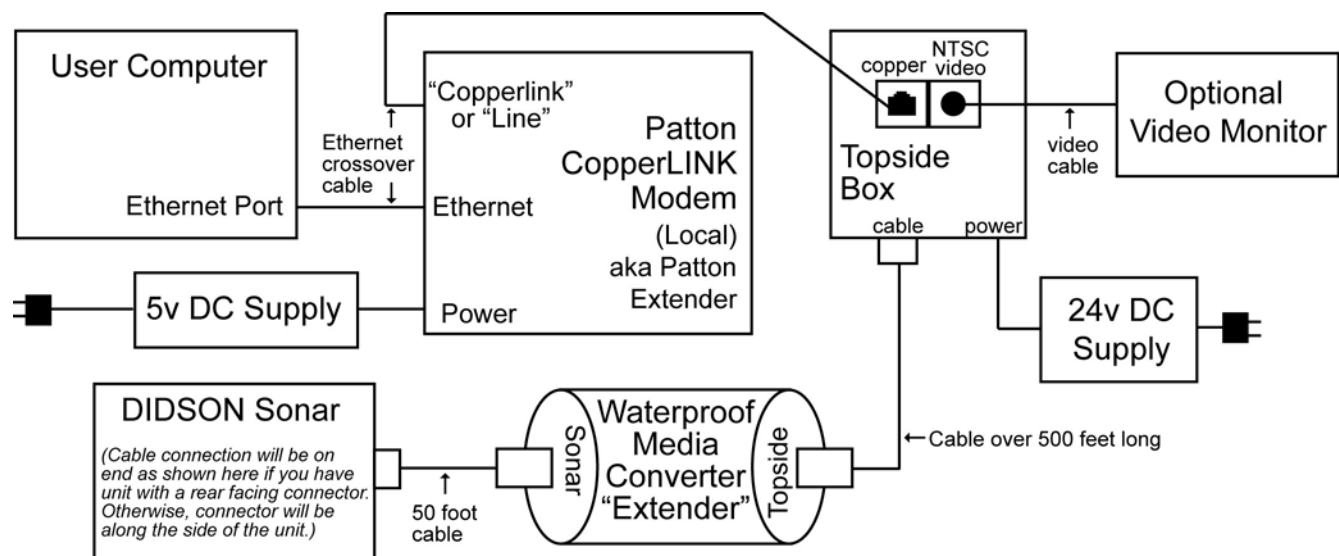

Figure 6b. Connections for cables 500 ft or longer
- Follow the steps below to configure the system for a sonar cable greater than 500 ft as shown in **Figure 6b**.